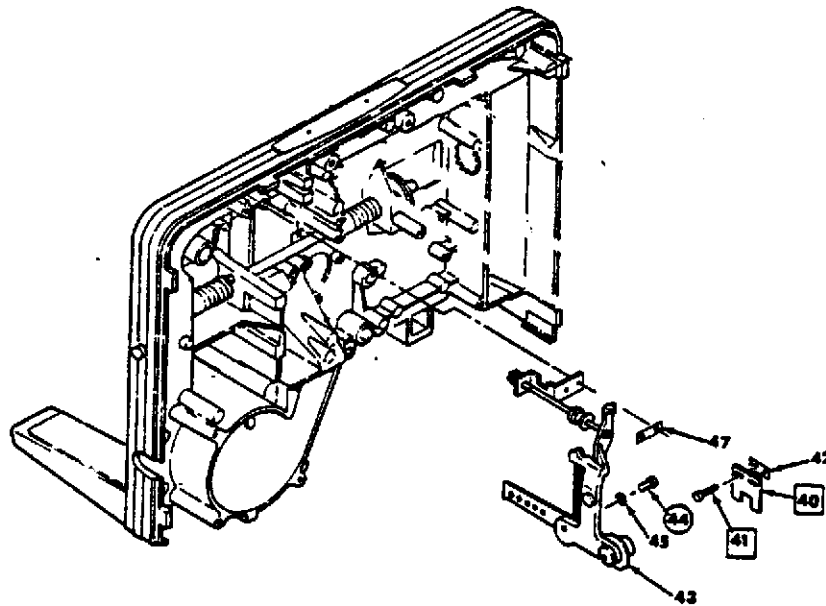

Figure 3-82. FRAMING ADJUSTMENT
- a. After the Claw Arm Adjustments have been checked and/or made, the Framing Limit Plate can be adjusted. (Figure 3-82)
- c. Loosen two Screws (41) and slide the Framing Limit Plate (40) so the top of the Framing Arm (43) is centered in the notch of the Framing Limit Plate (40). Tighten the two Screws (41).
- d. Run the projector in FORWARD and adjust the Framing Knob maximum in both directions. A frame line should move into the projected picture an equal amount on both top and bottom. Readjust the Framing Limit Plate (40) until this requirement is met.